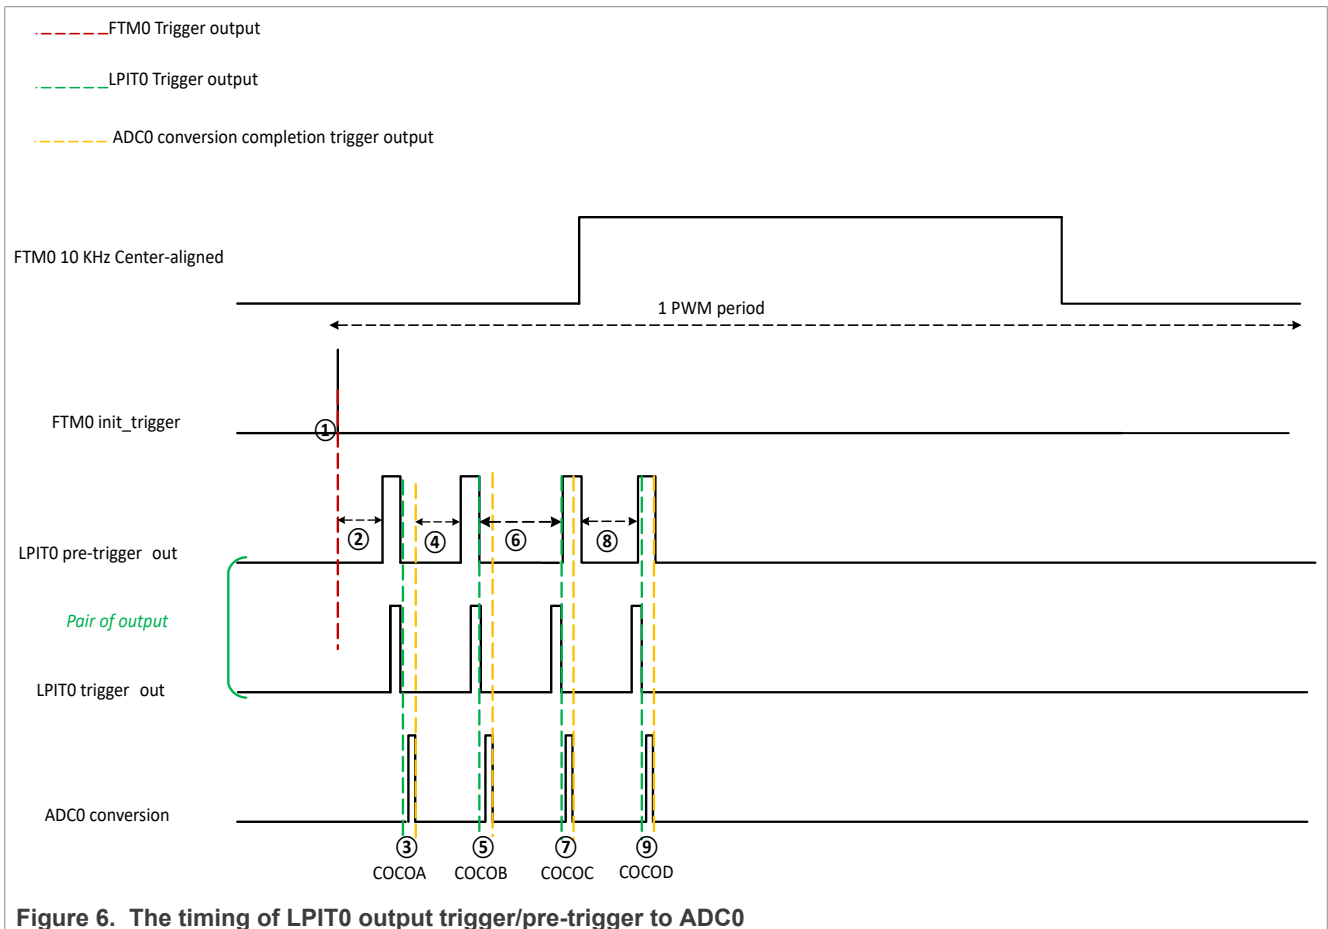

Figure 6. The timing of LPIT0 output trigger/pre-trigger to ADC0
Figure 6 shows the trigger outputs of LPIT0 and pre-trigger outputs to ADC0 via TRGMUX.
The steps marked in Figure 6 are described below. These occur in the process of LPTI0 trigger of four ADC0 alternative conversion.
2. After LPIT0 channel 0 defines the delay time (marked as 2 in Figure 6), one pair of pre-trigger and trigger outputs to ADC0, ADHWTSB, and ADHWT are generated, when LPIT0 channel 0 times out.